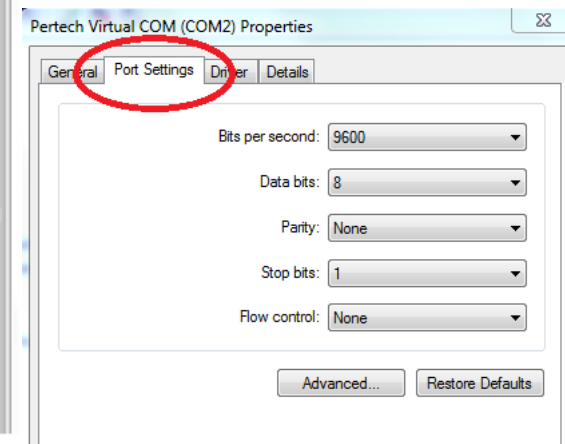

Figure 2
- Changing the COMx Properties “Port Settings” “Flow Control” there are three settings, None, Hardware, and Software. (See Figure 2 below)